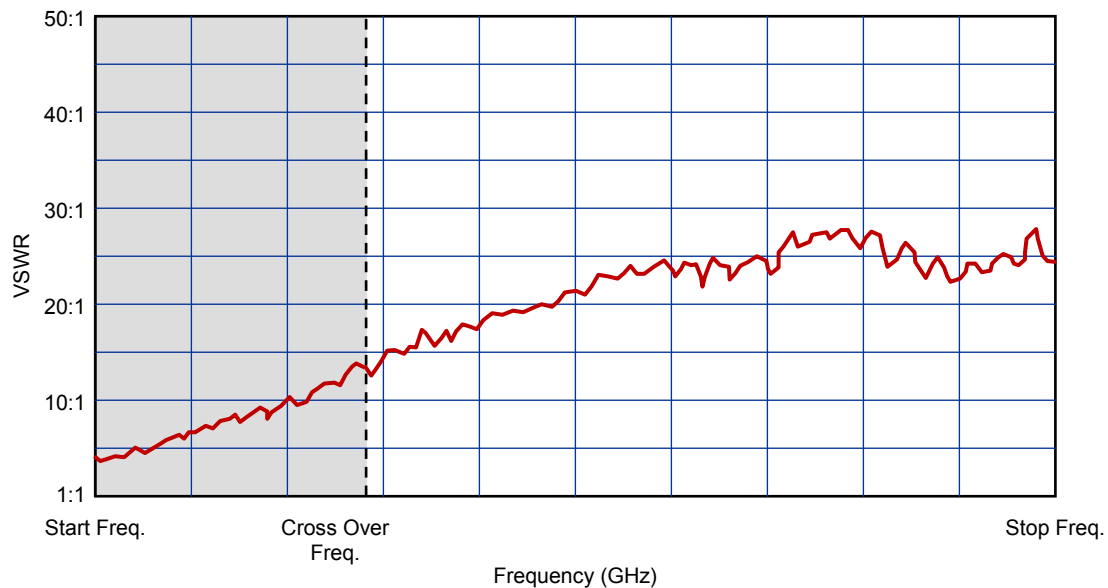

Figure 6. High Band VSWR Range Display
7. Set the VNA controls for a convenient display and verify that the VSWR in the high band, from the cross over frequency to the stop frequency of the tuner per Table 1, is as specified in Table 1. The VNA display should be similar to the sample shown in Figure 6.